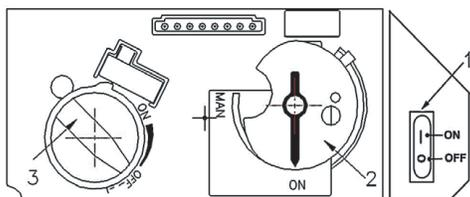
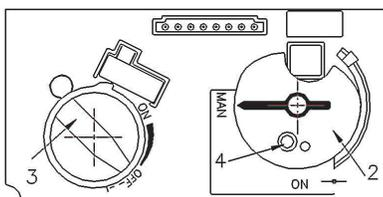
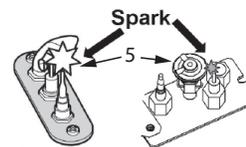

Fig 1
Fig 2
Fig 3
2. SET ON/OFF SWITCH (1) TO "OFF" POSITION.
- Wait five (5) minutes to clear out any gas, then smell for gas, including near the floor. If you smell gas, STOP! Follow "B" in the safety information above on this label. If you don't smell gas, go to the next step.
3. AUTOMATIC IGNITION (fig. 1): Locate the pilot (fig 3.) inside of firebox at Left Hand side.
- ON/OFF switch (1) in ON position, MAN-knob (2) in ON position; set Flame Adjustment knob (3) to lowest setting (∩);
- When the pilot is lit, the Flame Adjustment knob (3) will automatically rotate to the highest setting.
4. MANUAL IGNITION (fig. 2): With the window off, locate the pilot (fig. 3)
- ON/OFF switch (1) in ON position, MAN-knob (2) in MAN position;
- Set Flame Adjustment knob (3) to the lowest setting (∩);
- Push down the metallic core (4) with a pen or similar instrument; this will establish the pilot gas flow;
- Light gas at the pilot (5) with a match;
- Continue holding down metal core (4) for about 10 seconds; after release, pilot should remain lit;
- If the pilot will not stay lit after several tries, turn the gas control knob (3) to "OFF" (∩) and call your local service technician or gas supplier.